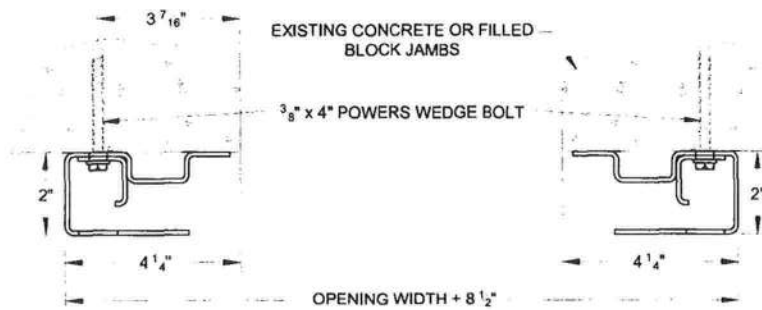

FIGURE 9: GUIDE MOUNTING - OPTION 2
- OPTION 2: Masonry jambs. $\frac{3}{8}$ " x 4" Powers Wedge Bolt at inside of guide. See Figure 9